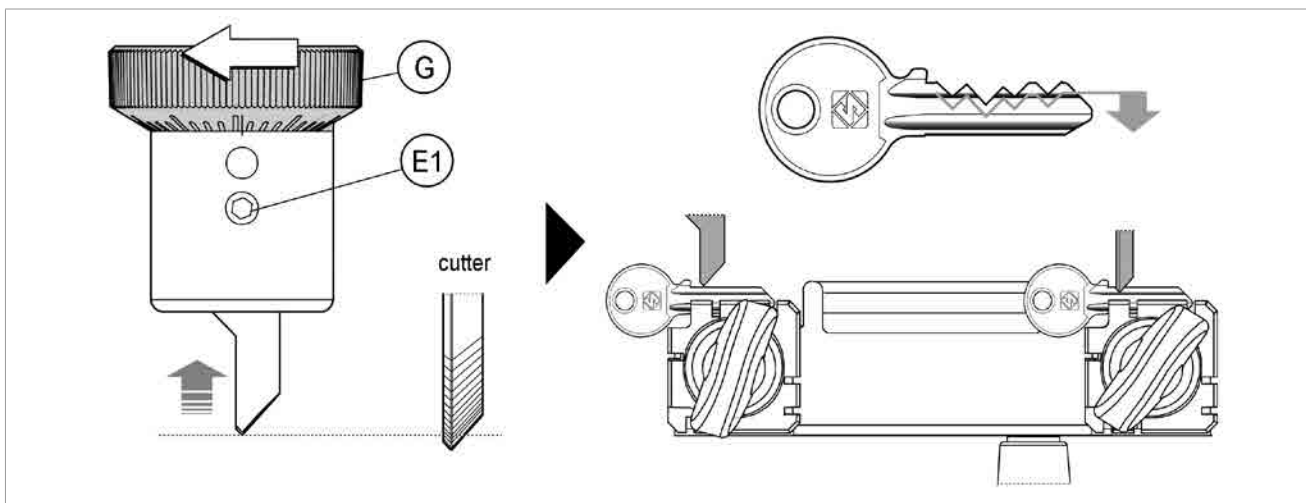

Fig.17
- c) turn the ring nut (G) anticlockwise to return (Fig.17).